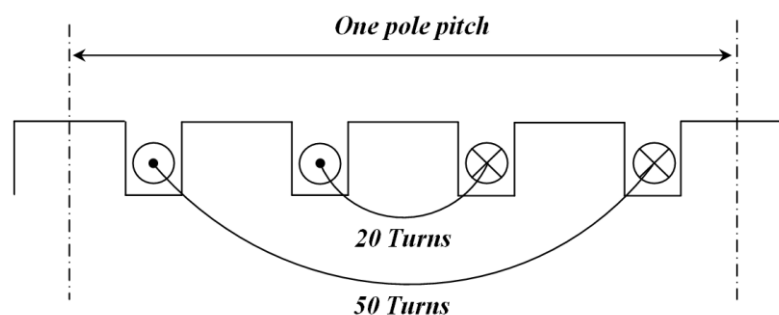

Figure 2
2. a. For a permanent magnet brushed DC motor, derive the torque constant K_T and the EMF constant K_E . (full marks will not be given if the appropriate approximations are not specified). (6)
- b. Sketch typical torque-speed characteristics of a permanent magnet brushed DC motor when supplied from different DC voltages. For a given motor, what limits the maximum torque which can be achieved and why? (5)
- c. Explain, with the help of a diagram, the reversible and irreversible demagnetisation phenomena in NdFeB magnets when the temperature is increased from room temperature to an elevated temperature and then reduced to the room temperature again. (6)
- d. Explain why the irreversible demagnetisation, which is caused by the temperature rise in rare-earth magnets, is usually much more serious than that in ferrite magnets? (3)
3. a. Derive general expressions for the winding pitch-factor, K_p , and the distribution-factor, K_d , for both fundamental and n-th harmonic emf components. (10)
- b. Show that the skew factor can be derived from the winding distribution factor. (4)
- c. A concentric winding which is distributed in the slots over one pole pitch in a machine having evenly spaced slots, as shown in Figure 2. Derive its expression of winding factor for the fundamental and the n-th harmonic components and calculate its value for the fundamental component. (6)